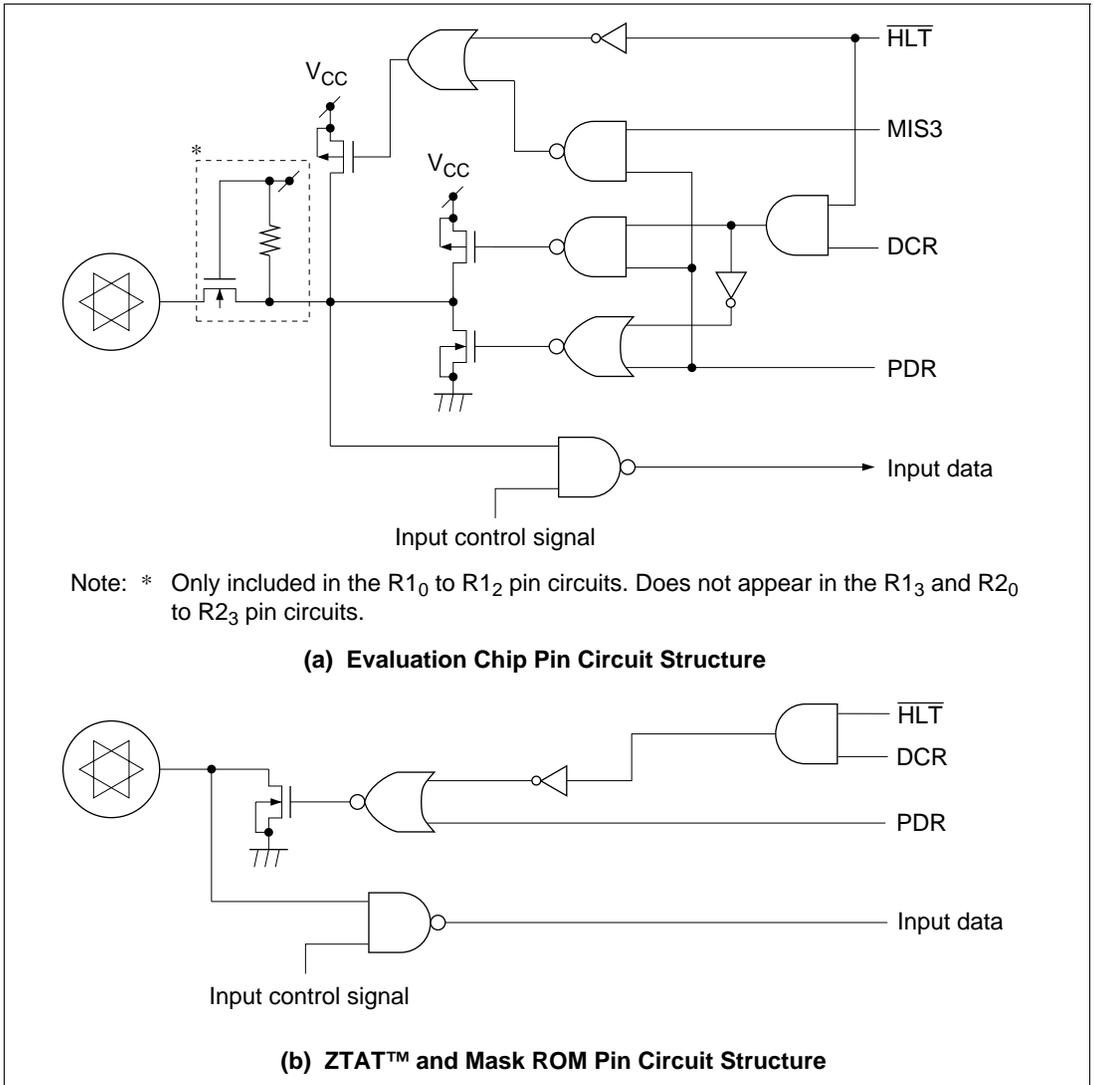

Figure 8-4 Medium Voltage NMOS Open Drain Pin Circuits
- In the HD404394 Series evaluation chip set, the circuits for the medium voltage NMOS open drain pins ($R1_0$ to $R1_2$) and the standard voltage NMOS open drain pins ($R1_3$ and $R2_0$ to $R2_3$) differ from the ZTAT™ and the mask ROM microcomputer versions as shown in figure 8-4. Although the outputs in both the ZTAT™ and mask ROM versions can be set to high impedance by the combinations listed in table 8.10, the $R1_0$ to $R1_2$ outputs cannot be set to high impedance in the evaluation chip set. Also note that the $R1_3$ and $R2_0$ to $R2_3$ outputs go to the high level when both the corresponding DCR and PDR are 1. Please keep this in mind when using the evaluation chip set.